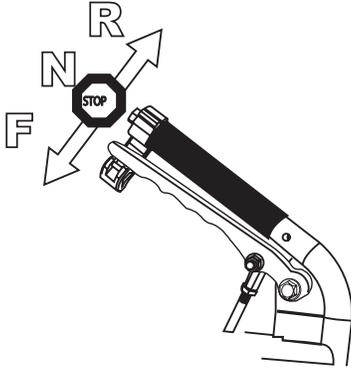

Figure 3-1
2. Refer to Figure 3-1 for the following instructions.